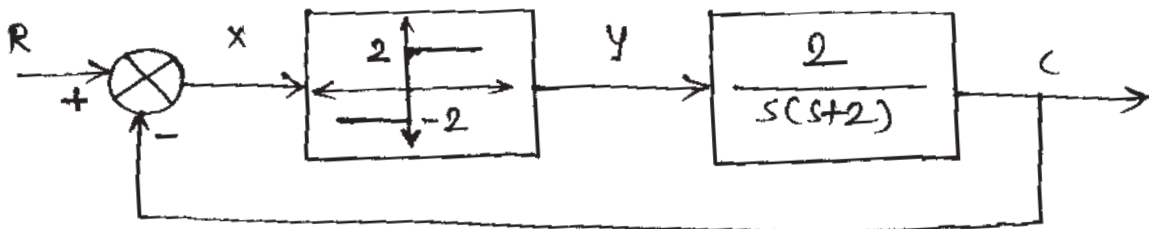

Fig. 1
b) Find the frequency and Amplitude of Limit Cycle (s) for the system as shown in figure 1. [12]